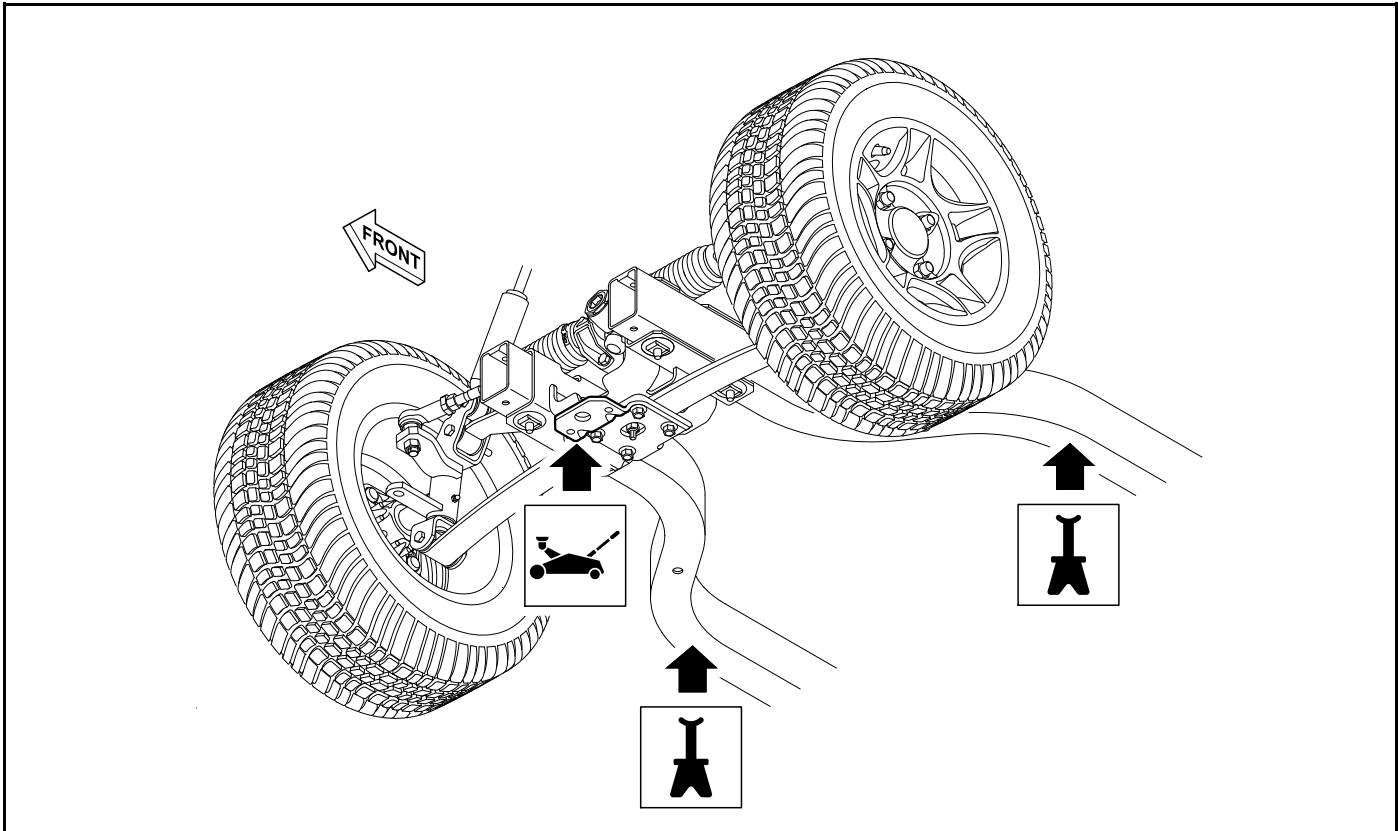

Figure 8-1
3. Place the jack in the center of the lift point (**Figure 8-1, Page 8-2**).
1. Place the jack in the center of the lift point (**Figure 8-1, Page 8-2**).